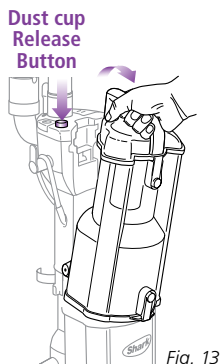

Fig. 13
- 1 Press the Dust Cup release button (🔒) and remove the dust cup from the vacuum. (Fig. 13)